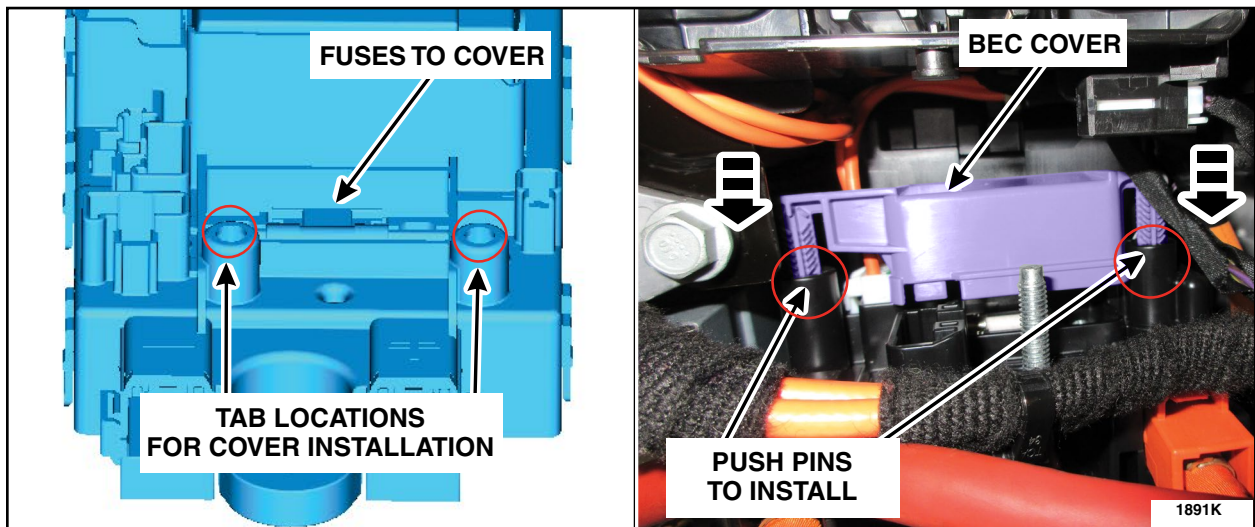

FIGURE 6
8. Install the BEC protective cover. See Figure 6.
NOTE: BEC protective cover is highlighted in purple for clarity in Figure 6. Actual cover is gray in color.